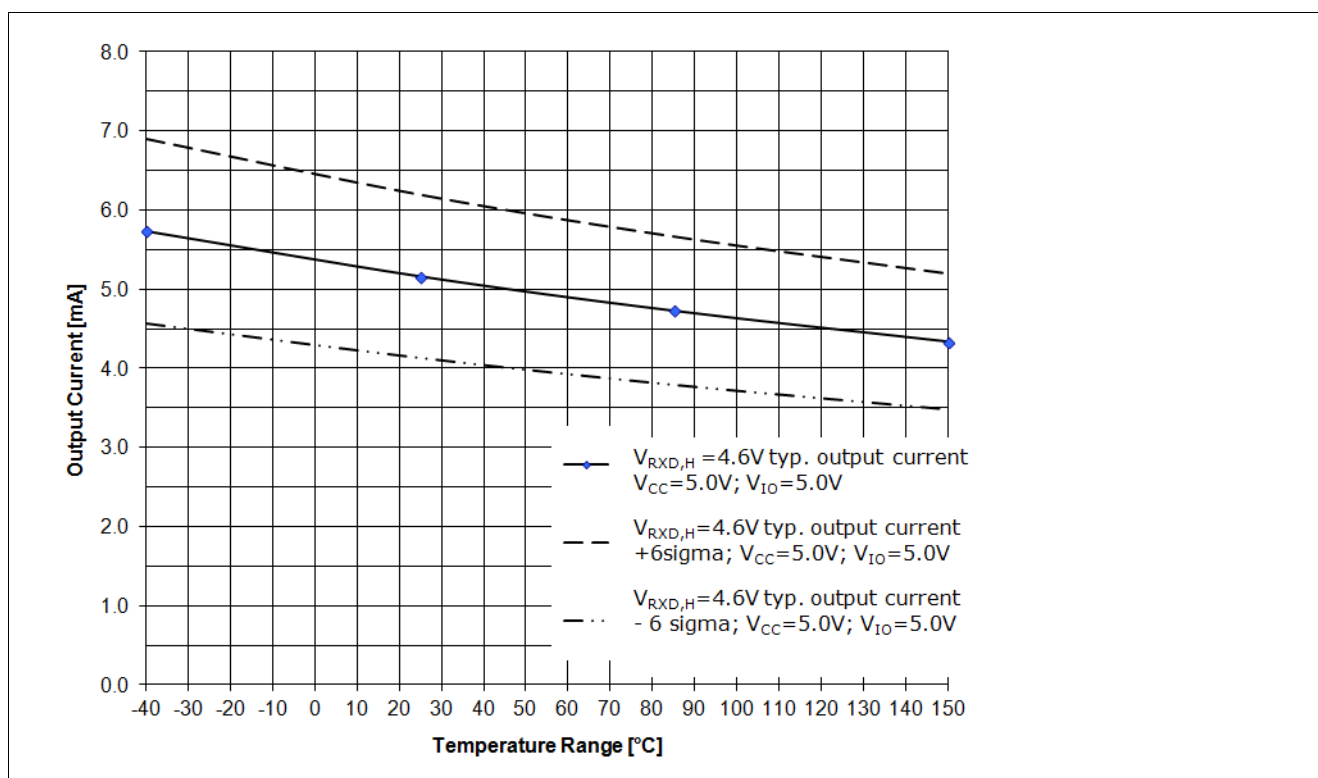

Figure 11 RxD Output driver capability for a logical “High” signal VRxD,H=4.6 V, VCC=5.0 V, VIO=5.0 V1)
The diagram in Figure 11 shows the output current capability of the RxD output pin depended on the chip temperature  $T_J$  at a  $V_{IO}$  power supply of 5.0 V. Figure 12 shows the output current capability of the RxD output pin at a  $V_{IO}$  power supply of 3.3 V.
- The curve “VRxD,H = 4.6 V; typ. output current; VCC = 5.0 V; VIO =5.0 V;” displays the typical output current at the RxD output pin of the TLE8250GVIO (see Figure 11).
- The curve “VRxD,H = 4.6 V; typ. output current + 6 sigma; VCC = 5.0 V; VIO =5.0 V;” displays the expected maximum value of the output current at the RxD output pin (see Figure 11).
- The curve “VRxD,H = 4.6 V; typ. output current - 6 sigma; VCC = 5.0 V; VIO =5.0 V;” displays the expected minimum value of the output current at the RxD output pin (see Figure 11).